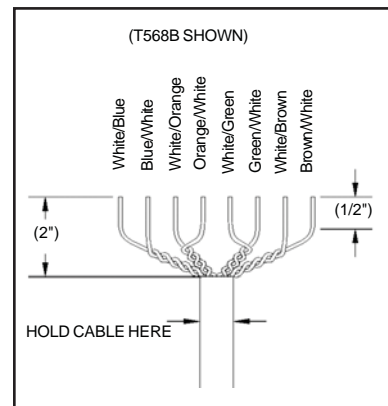

FIG. 1
- 2.1. Trim jacket back approximately 2" (see FIG. 1). **Caution:** do not damage conductors